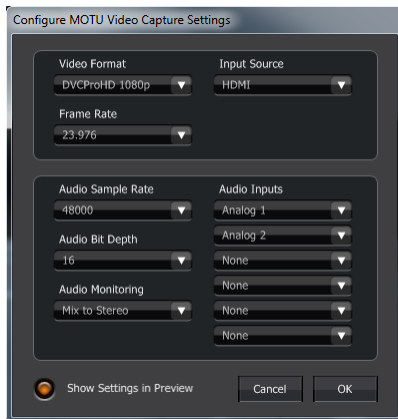

Figure 7-2: MOTU video capture settings.
- 3 Click *Configure...* to access capture parameters of the HD Express (Figure 7-2).
Choose the desired video format Figure 7-2 on page 38.